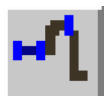

Figure 3-5
- 2 Press the Analyze Reflectance icon (Figure 3-5).